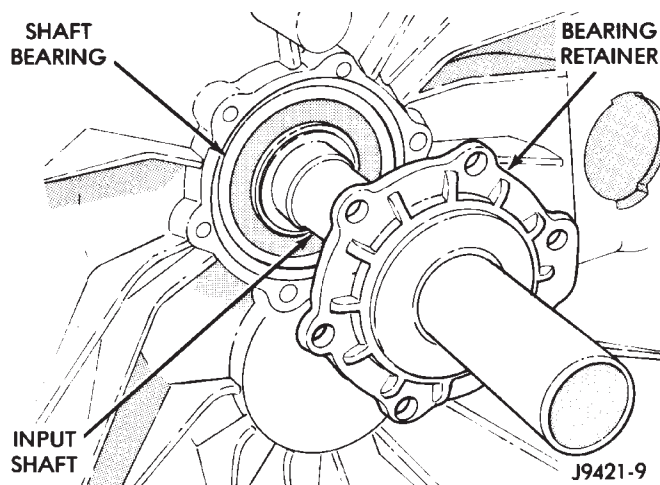

Fig. 13 Input Shaft Bearing Retainer Removal
(9) Remove bearing retainer from input shaft (Fig. 13).